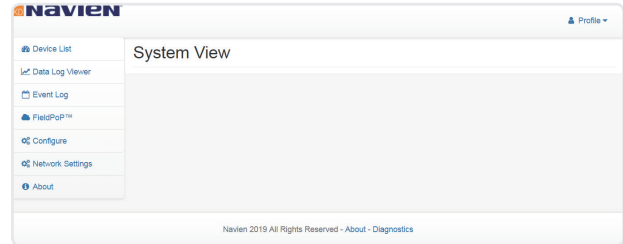

Figure 17: Web App Landing Page
4. From the Web App landing page (Figure 17), click the Configure tab.